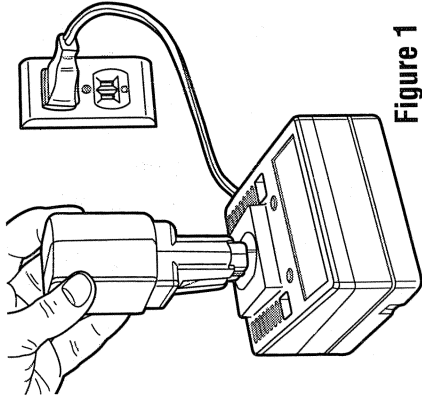

Figure 1
Be sure to read all safety instructions before using your charger. The **98014 charger** is designed to charge battery packs in about 1 hour. This charger requires no adjustment and is designed to be as easy as possible to operate. Simply place your battery pack into the receptacle of a plugged in charger (Figure 1) and it will automatically charge the pack.
2. Insert the battery pack into the charger, as shown in Figure 1, making sure the pack is fully seated in the charger. The red (charging) light will blink continuously indicating that the charging process has started.